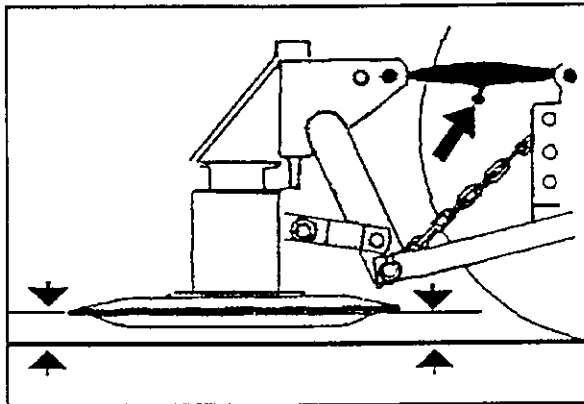

fig. 4-14
4. Set mowing mechanism in an absolutely horizontal position in relation to the ground via the top link (fig. 4-14).